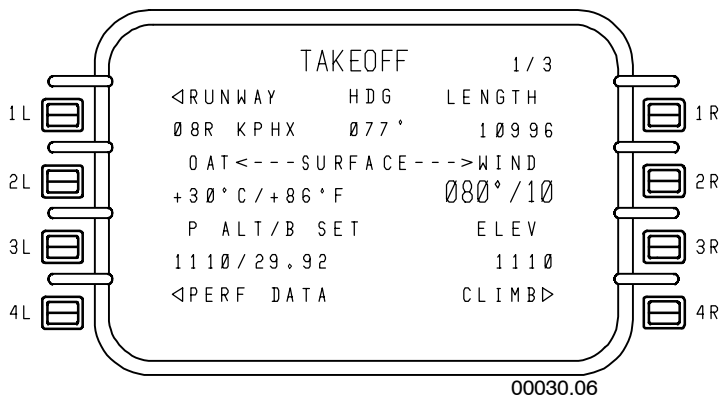

Figure 4-40
• **Takeoff 1/3** – Figure 4-40 displays the following: